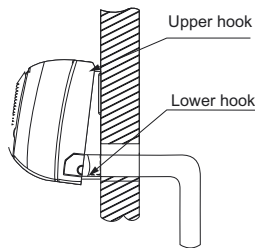

Fig. 13 – Indoor Unit Installation
7. Push the lower part of the indoor unit up on the wall, then move the indoor unit from side to side, up and down to ensure it is hooked securely (see Fig. 13).